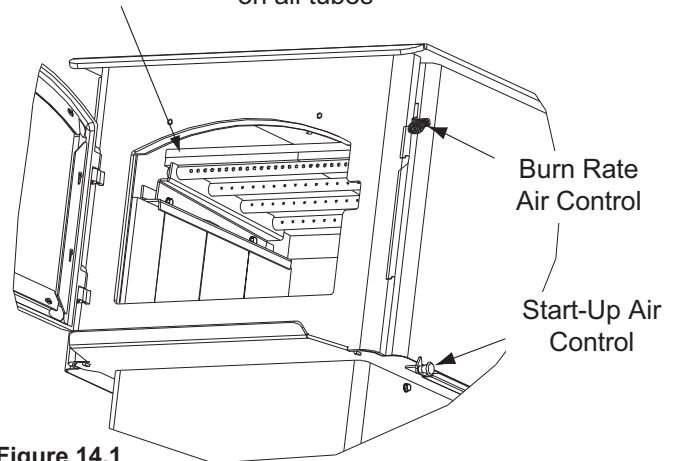

Figure 14.1
1. Confirm the baffle is correctly positioned. It should be even with the front tube and resting on all tubes (**Figure 14.1 and 14.2**).